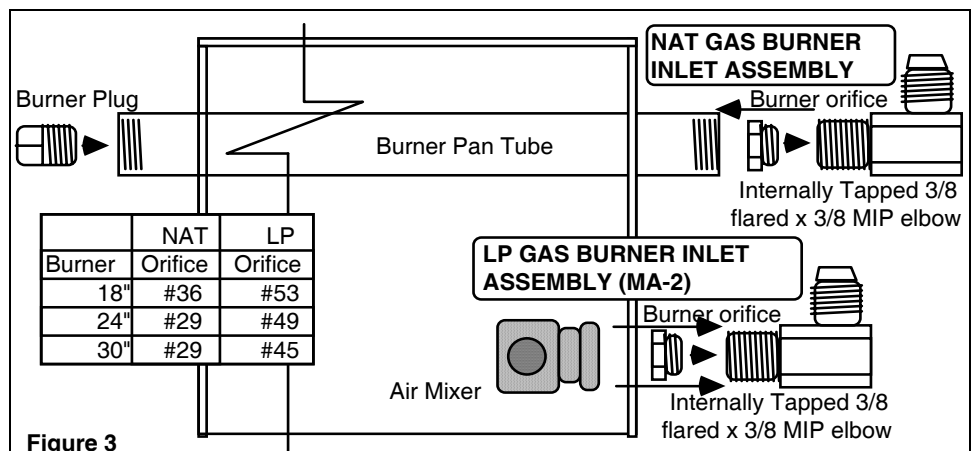

Figure 3
**STEP ONE: Burner Pan Fittings (Figure 3).**
- **Natural Gas Burners** (F, FX, CS) Insert the appropriate **Burner Orifice** (see chart at Figure 3) into the **Internally Tapped 3/8 Flared x 3/8 MIP Elbow** and wrench tighten. (Orifice and Fitting are provided with Burner Pan).
- **Propane Gas Burners** (FA, FA-X, CA) requires **MA-2 Air Mixer Assembly** (see Figure 3). Insert the appropriate **Burner Orifice** (see chart at Figure 3) into the **Internally Tapped 3/8 Flared x 3/8 MIP Elbow** and wrench tighten. Thread the **Air Mixer** onto the **3/8 Flared x 3/8 MIP Elbow** and wrench tighten with air intake holes positioned horizontally (parallel to the floor).